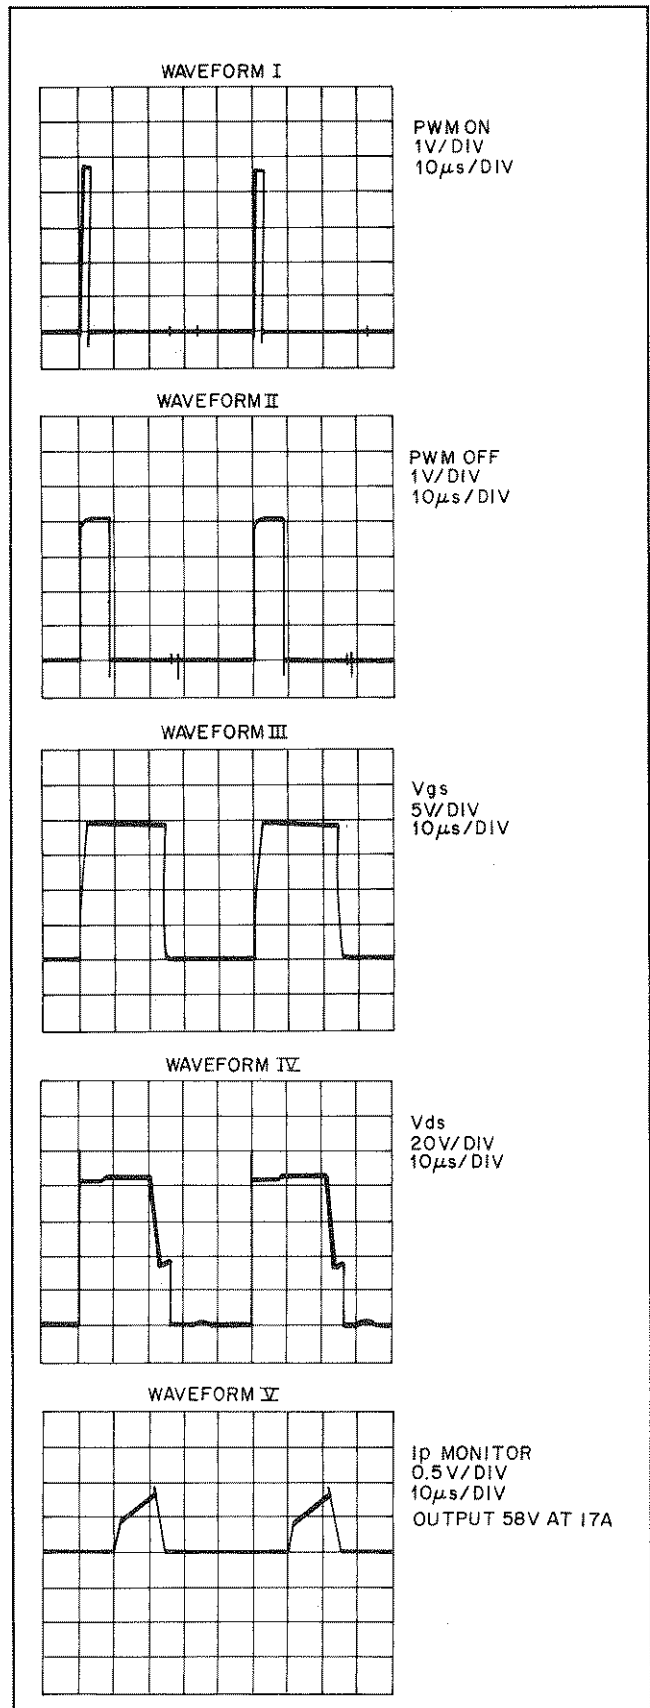

Figure 5-11. Waveforms
**5-119 Setup.** The Main Troubleshooting Setup, paragraph 5-73. Apply the ac mains voltage to the isolation transformer, and set the external supply to 40 Vdc. Set the unit's output voltage to 20 Vdc and current to above 1 Adc using "DISPLAY SETTINGS" switch. Verify that the UNREGULATED LED lights. See Figure 5-11 for waveforms.